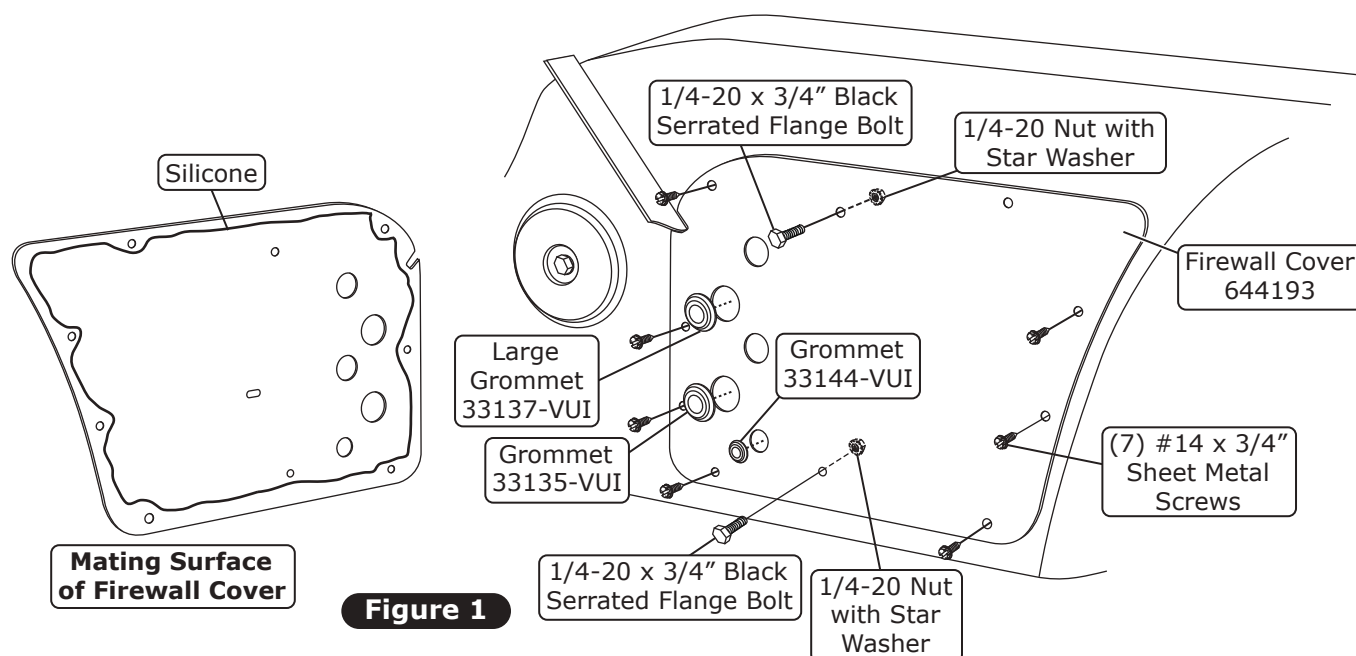

Figure 1
3. Install the grommets as shown in Figure 1, below.